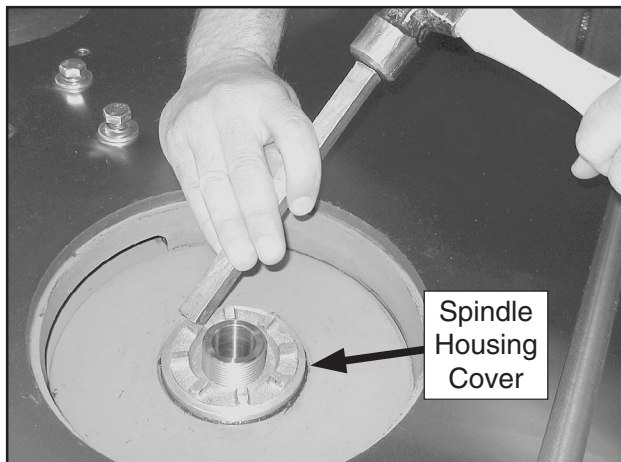

Figure 58. Removing the spindle housing cover.
5. Use the brass drift or a piece of wood and a hammer to loosen and remove the spindle housing cover, as shown in **Figure 58**.